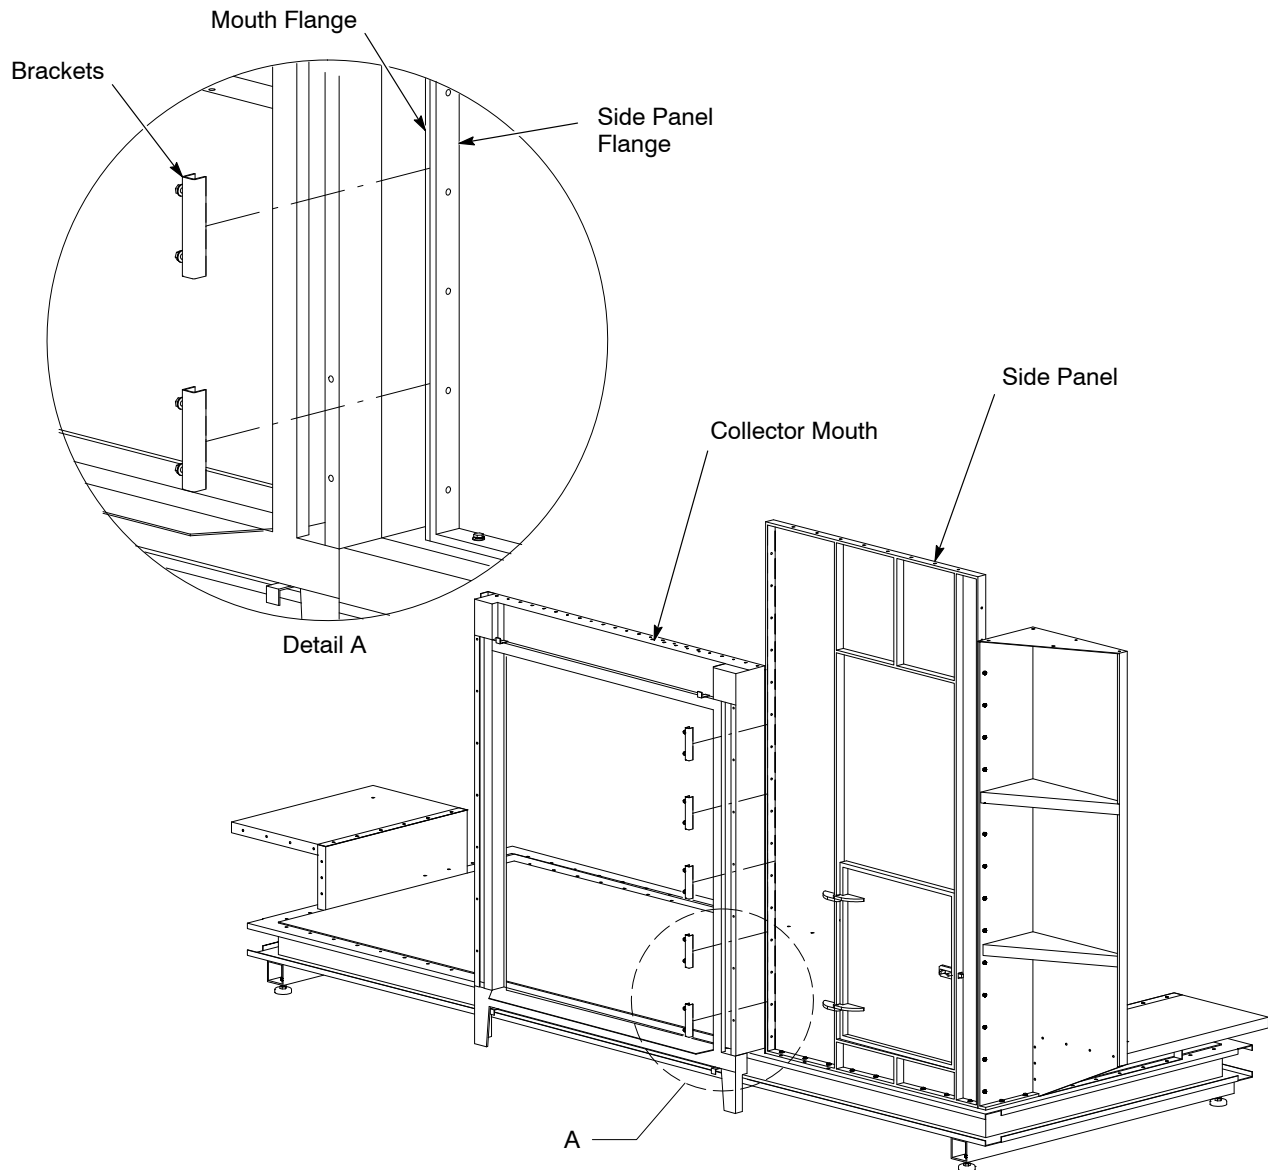

Figure 4 Securing Side Panels to Collector Mouth
5. See Figure 4. Line up the collector mouth flange with the side panel flange so that the mount and panel are flush on the inside of the booth.
12. Attach the corner panel assembly to the top panel and collector mouth as shown in Figure 4.